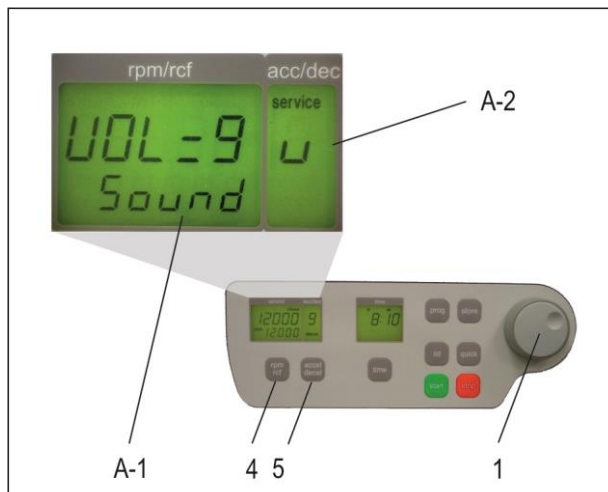

Figure 5
Proceed as illustrated, under point 1.8.1, to enter this program mode, press the key "accel/decel" (5). In the display, "accel/decel" (A-2) flashes the word, "service". Select the letter, "U" with the adjustable knob (1). As a result, appearing in the display, "rpm/rcf" (A-1), are the words, "Vol=0-9/Sound". By pressing the key, "rpm/rcf" (4), the desired volume can be adjusted between 0 (low) and 9 (loud), with the adjustable knob (1), (see Figure 5).